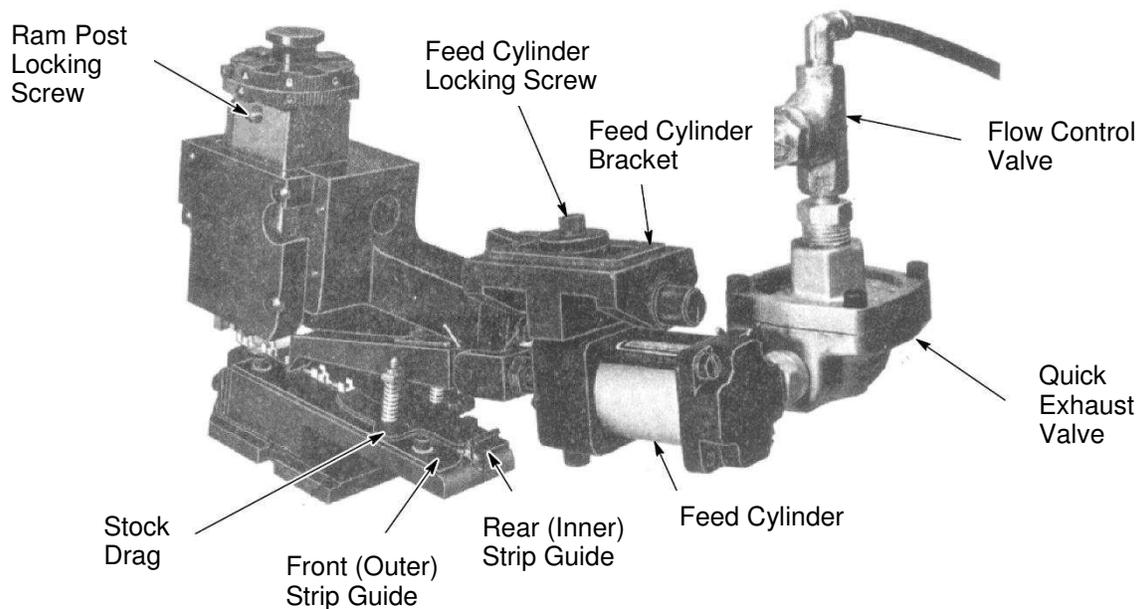
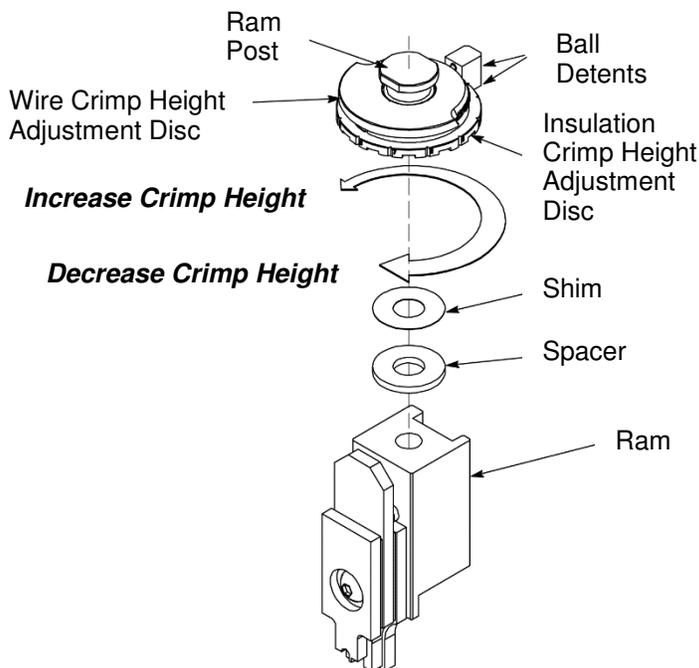

Figure 5
Figure 7
- (1) Slightly loosen the feed cylinder locking screw on top of feed cylinder bracket (see Figure 5).
- (2) Turn on-off valve to the "off" position (AMP-O-LECTRIC machine), or disconnect air supply to feed cylinder (automatic equipment). Feed finger should retract.
- (3) Turn feed adjustment screw CLOCKWISE to RETRACT forward limit or COUNTERCLOCKWISE to EXTEND forward limit of stroke.
- (4) Retighten feed cylinder locking screw, turn on-off valve to "on" position (AMP-O-LECTRIC machine) or reconnect air supply to feed cylinder (automatic equipment).
Fine Adjust Assembly PN 879103-[] is factory installed and should require no further adjustment. If the assembly must be removed from the ram, be sure to loosen ram post locking set screw (reference Figure 5). The ram post can then be removed. Upon re-assembly, be sure that the two ball detents on the fine adjust assembly are aligned with the centerline of the insulation crimper and oriented relative to the front of the tooling (as shown in Figure 7). Ensure that the correct spacer (as per the appropriate applicator log) is re-assembled. Be sure that the ram post and ram post locking set screw are tight before re-installing the applicator into the appropriate terminating unit.